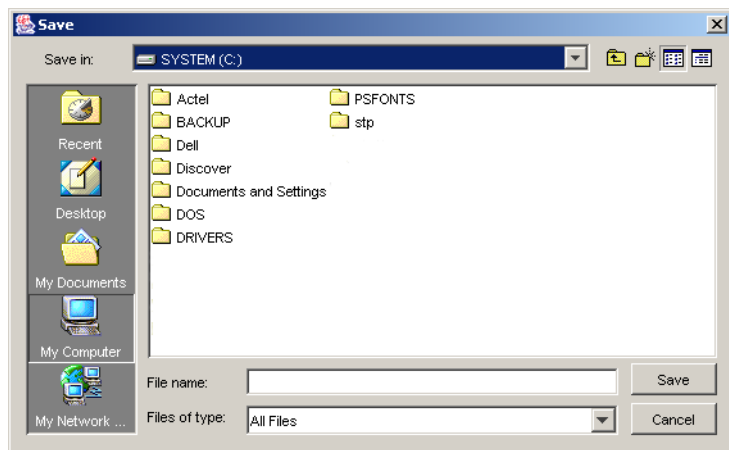

Figure 2-23. Save Dialog Box
You can reprogram a securely locked device using the original STAPL file by following the usual programming procedures. The UNLOCK\_UKEY box is checked by default, and the software automatically unlocks the device before programming (see Figure 2-23).
1. From the **File** menu, click **Save Log**. The Save dialog box appears, as shown in Figure 2-23.